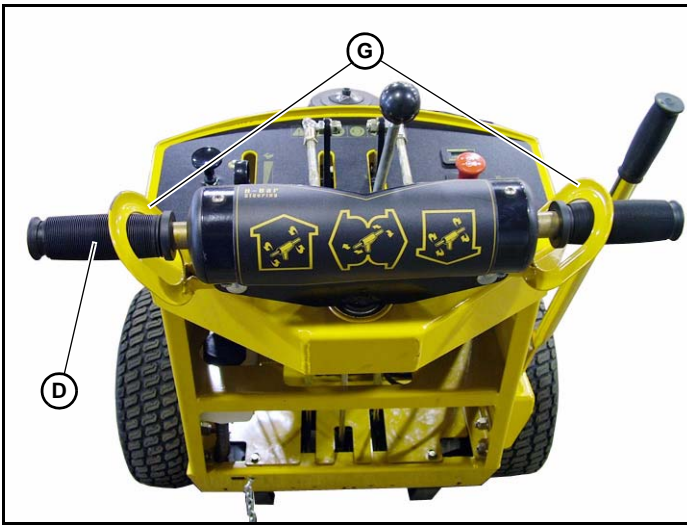

Fig. 3-2
**D. H-Bar handle (Fig. 3-2) —** this handle controls the unit's acceleration, speed, steering direction and dynamic braking.
**G. Operator presence control levers (Fig. 3-2) —** engages the operator presence switches. If the switch is not engaged the unit will not operate. Refer to the Safety Interlock system for more information.
The unit is equipped with a safety interlock system consisting of the neutral lock switch, operator presence control lever switches and deck clutch switch. Fig. 3-2